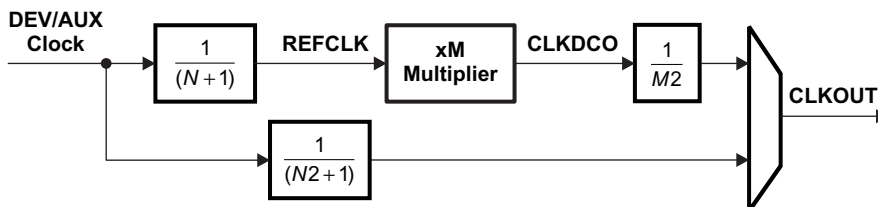
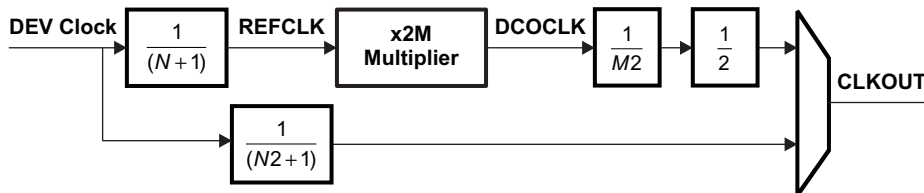

Figure 7-14. Top-Level PLL Simplified Block Diagram
Figure 7-15. PLL_ARM Simplified Block Diagram
The device contains 12 top-level PLLs, and 4 embedded PLLs (within the ARM Cortex-A8, PCIE, SATA, and CSI) that provide clocks to different parts of the system. Figure 7-14 and Figure 7-15 show simplified block diagrams of the Top-Level PLL and PLL_ARM. In addition, see the System Clocking Overview (Figure 7-4) for a high-level view of the device clock architecture including the PLL reference clock sources and connections.
(1) This parameter describes the limits on the programmable multiplier value M. The multiplication factor for the PLL_ARM is equal to $2 * M$ (also see Figure 7-15).
(2) The PLL Multiplier supports fractional values (up to 18-bits of fraction) except when the PLL Multiplier is < 20 OR > 2045.